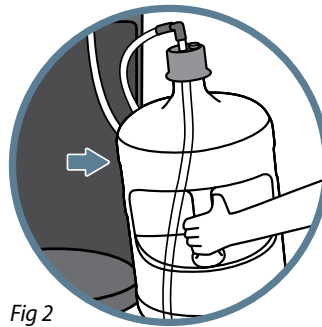

Fig 2
2. Remove the empty water bottle (Fig 2). Wipe interior cabinet with 70% rubbing alcohol or food surface approved disinfecting wipes.